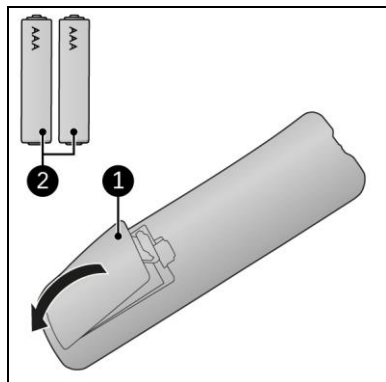

Figure 13
1. Remove the cover (Figure 13, pos. 1).
3. Insert two batteries (AAA 1.5 V) (Figure 13, pos. 2) as indicated in the battery compartment. Make sure to insert the batteries correctly.